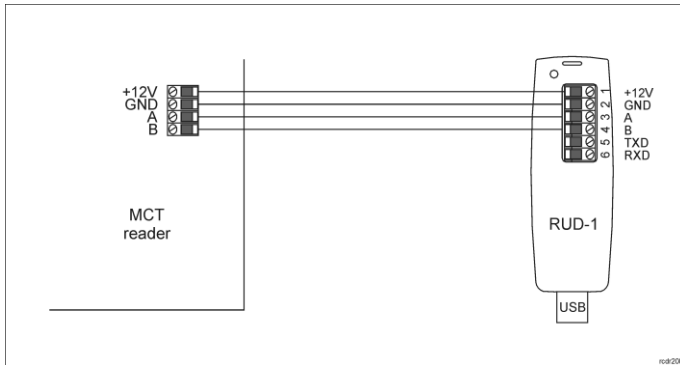

Fig. 1 Connection of MCT reader to RUD-1 interface for configuration
The configuration requires connection of a reader to computer with RUD-1 interface (fig. 1) and starting RogerVDM software.
1. Connect the reader to RUD-1 interface (fig. 1) and connect the RUD-1 to computer's USB port.